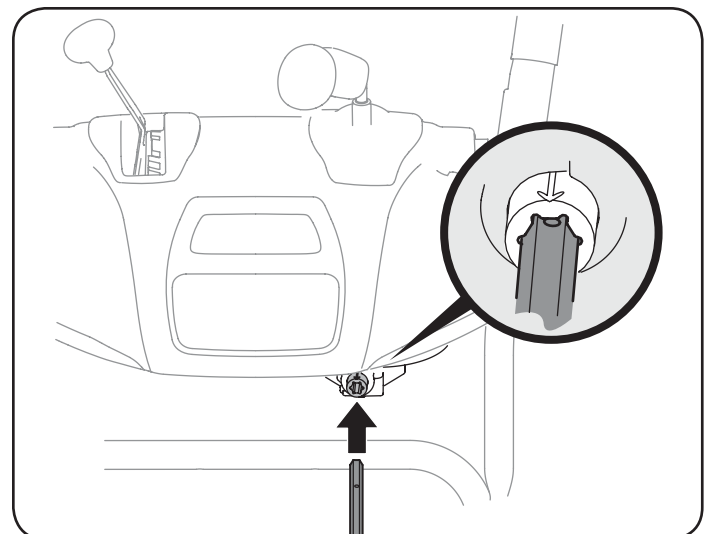

Figure 9
7. While supporting the back of the pinion gear insert the hex end of the chute control rod (hole pointing upward) into the pinion gear. See Figure 9.